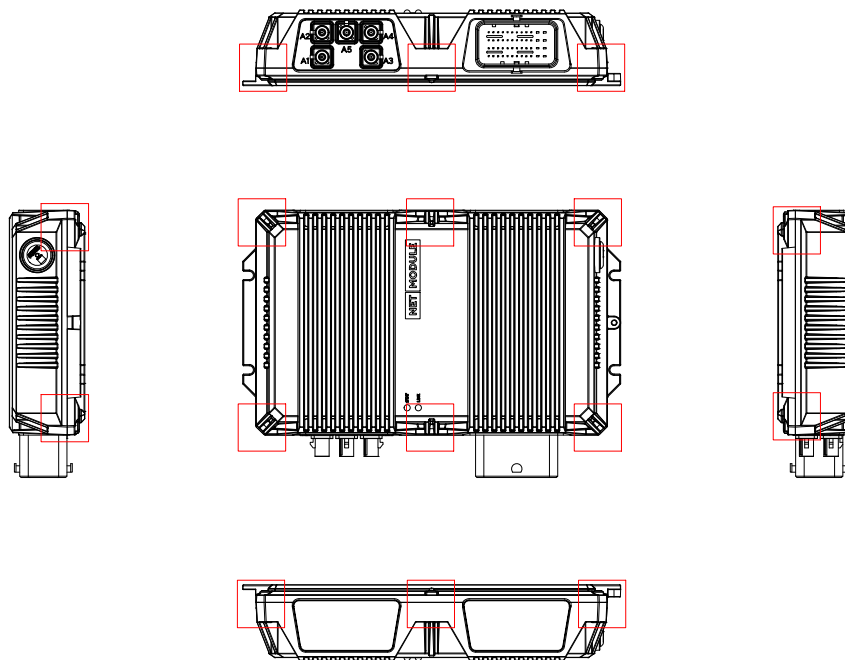

Figure 9
- 4.3 Check if the cover are fully functional -> no damage/cracking found by the 6 screwing (Figure 9)